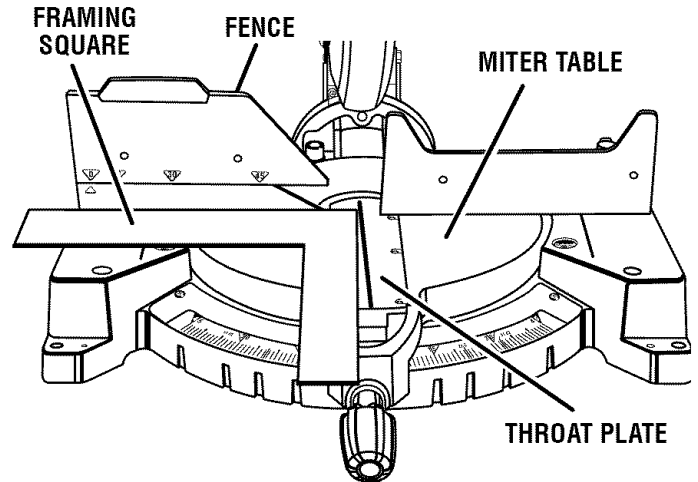

Fig. 24
- If the edge of the framing square and the throat plate in the miter table are not parallel as shown in figures 24 and 25, adjustments are needed.